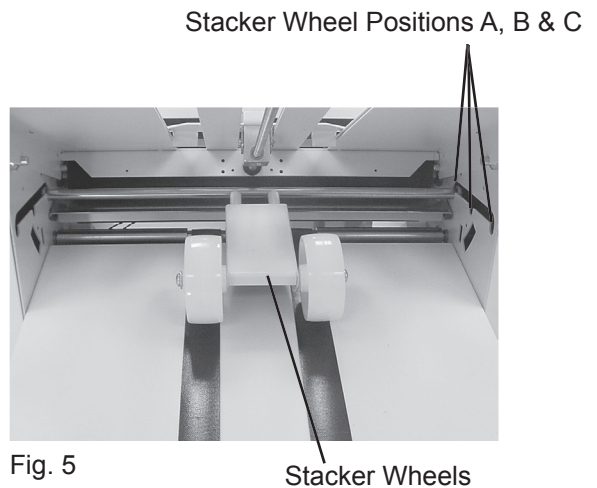

Fig. 5
4. Move the stacker wheels to the proper position for the paper size (Fig 5) (Refer to chart on page 6).